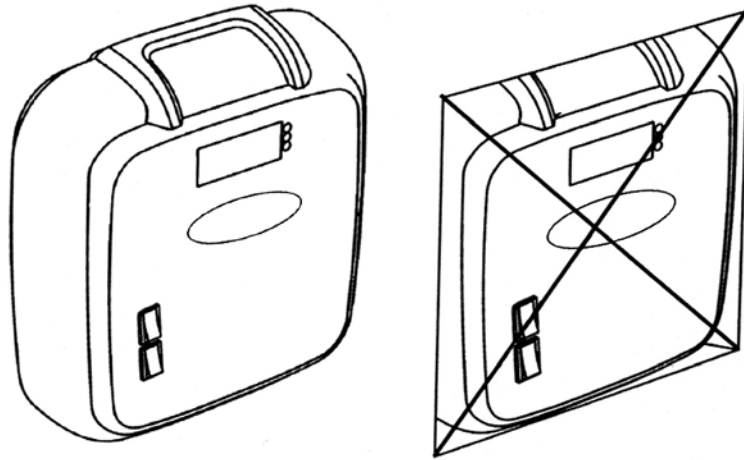

Figure 3. The control centre must not be flush mounted
- The control centre must not be flush mounted. Figure 3.